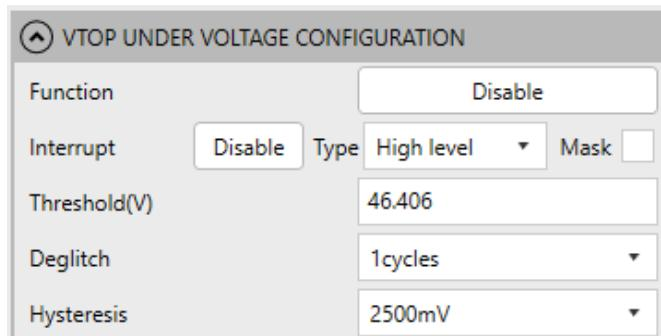

Figure 29: V_{TOP} Under-Voltage Configuration
25. Configure the V_{TOP} UV parameters (see Figure 29).